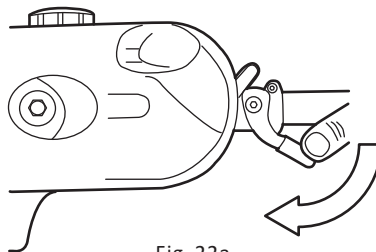

Fig. 22a
a). Press the locking lever (D8) downward and hold it in position. (See Fig. 22a)